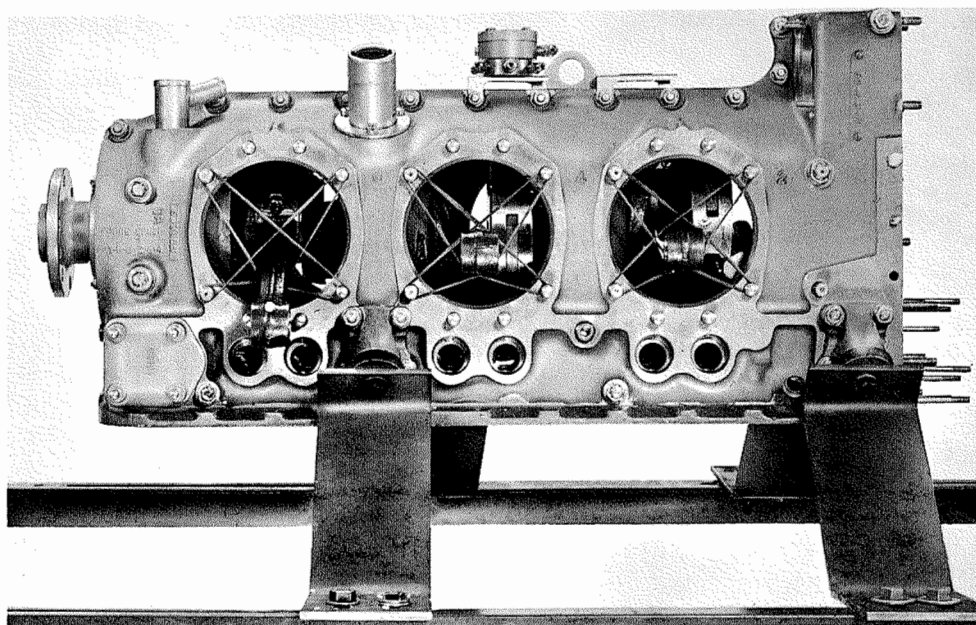

Figure 8-3. Left Side of Completed Crankcase on Stand.
l. Install fuel manifold valve over crankcase flanges. Install spacer (25) lifting eye (24) and secure with attaching parts (23, 22, 21, 20). Install attaching parts (56 through 59).
m. Install one bolt and washers (48, 49, 50) at left rear, one "O" ring (54) and two bolts and washers (48, 49, 50) at right rear and one bolt and washer (48, 49) at right front. Do not tighten any parts in this group yet.
p. Install two "O" rings (54), one bolt (55) and attaching parts (51, 52, 53, 54) in the upper rear case hole and tighten nut.
q. Attach right crankcase mount brackets to the assembly stand and rotate stand until engine is upright as shown in figure 8-3.
r. Install generator mount bracket (35) and secure with attaching parts (27 through 34).